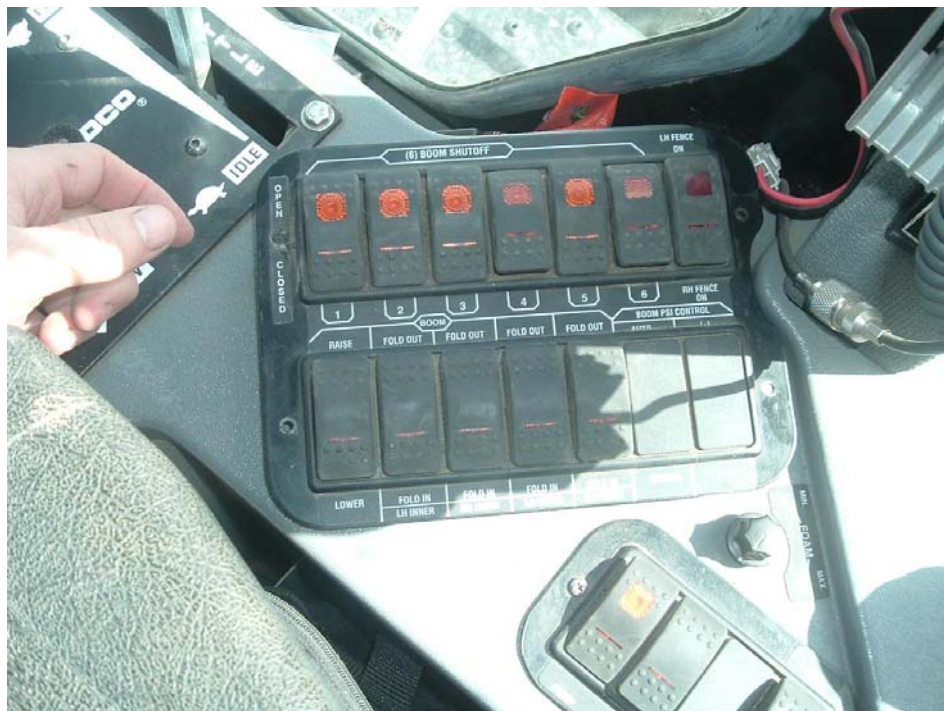

Figure 3 Case Patriot SPX section switch panel
2.	Locate the control panel inside the cab with the rocker section switches as shown below in Figure 3.